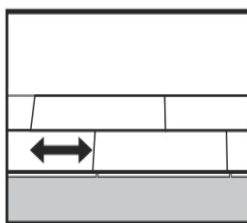

Figure 1.
5. **First and last plank length should not be less than 300 mm. Short end joins on parallel planks should be at least 300 mm in distance from the adjoining plank, Figure 1.** Plan the layout of plank lengths and visual aspects prior to final fix. This will assist in providing a balanced blend of grade, colour and joint alignment.
8. To optimise structural and visual performance, First and last plank length should not be less than 300 mm. Short end joins on parallel planks should be at least 300 mm lengthways in distance from the adjoining plank. **Refer, Figure1.**